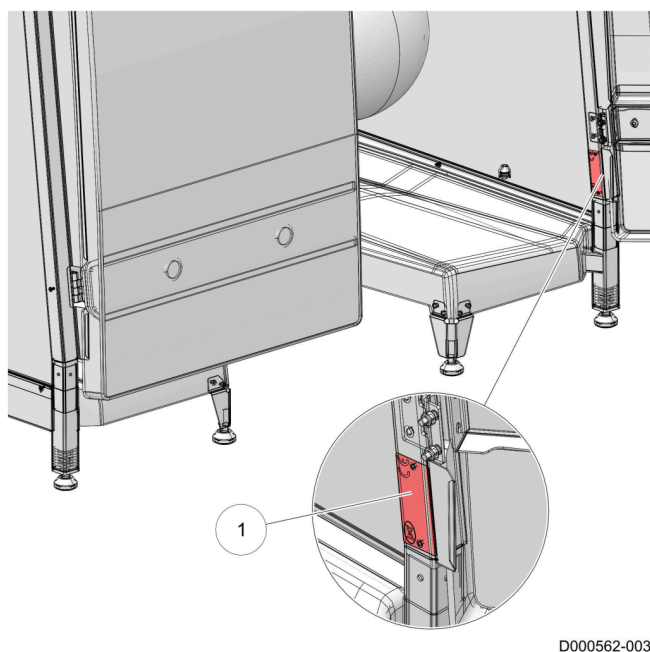

Figure 3. Location type and serial number plate central unit
- In the central unit on the front side behind the right door under the bottom hinge (see figure 3 on page 9).